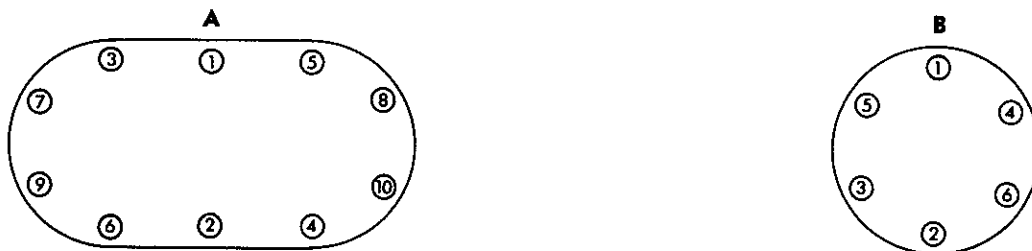

FIGURE 4-3. BASIC TORQUE PATTERNS
6. Repeat pattern bringing all bolts up to full torque value. If no torque pattern is specified, start at center line of gasket and torque bolts as shown in Figure 4-3, following numbered sequence.